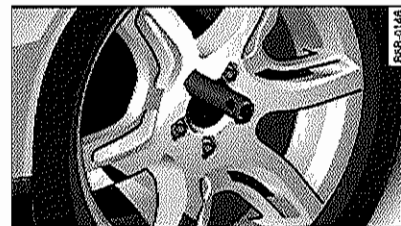

Fig. 234 Changing a wheel: alignment pin inside the top hole
- Screw the threaded end of the **alignment pin** from the tool kit hand-tight into the empty bolt hole ⇒ fig. 234.